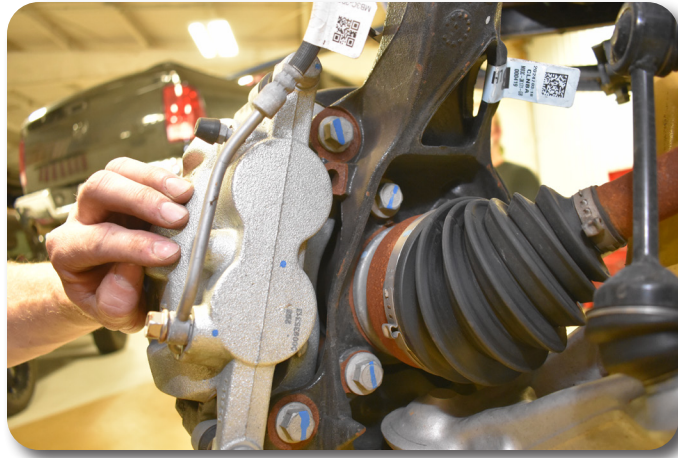

Figure 14
20. With the strut installed, reconnect the knuckle to the upper ball joint with the original nut. While connecting the upper ball joint, be sure that the CV shaft properly aligns into the hub Figure 14. Torque the upper ball joint nut to 46 ft-lbs.